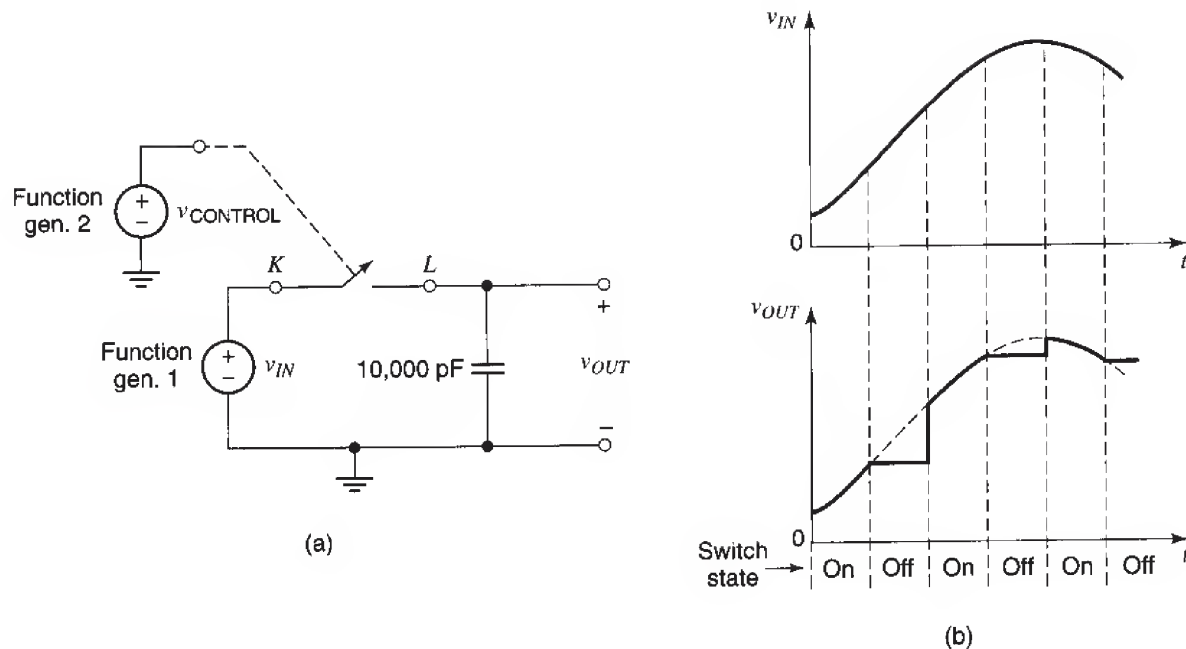

Fig. 9
17. Consider the circuit of Fig. 9(a). It operates as follows:
This operation is illustrated in Fig. 9(b). As seen, when the switch is opened the capacitor holds the above value until the switch closes again, at which point the output again becomes equal to the input and tracks it. This is a *track-and-hold* circuit. It has many uses; for example, it is found at the input of analog-to-digital converters; during the intervals that the track-and-hold's output is held constant, the converter processes it to convert it to a digital code. This code can then be fed to a computer, to a digital communications link for transmission, or to a digital signal processor for further processing. Analog-to-digital converters are used, for example, in recording studios to convert music signals to digital words, which can then be stored on compact discs.
20. If you still have time, you can ponder this question: Can you think of a way to further process the output signal of the circuit in Fig. 9(a), so that the varying part in each control voltage period is eliminated? You would need an additional track-and-hold circuit to do this. Do not build such a circuit; just explain how you would build it if you had to. Circuits that produce such waveforms at their output from a continuously varying input signal are called *sample-and-hold* circuits (or, more accurately, *sample-delay-hold circuits*). Sometimes, even the track-and-hold circuit is called a sample-and-hold circuit.